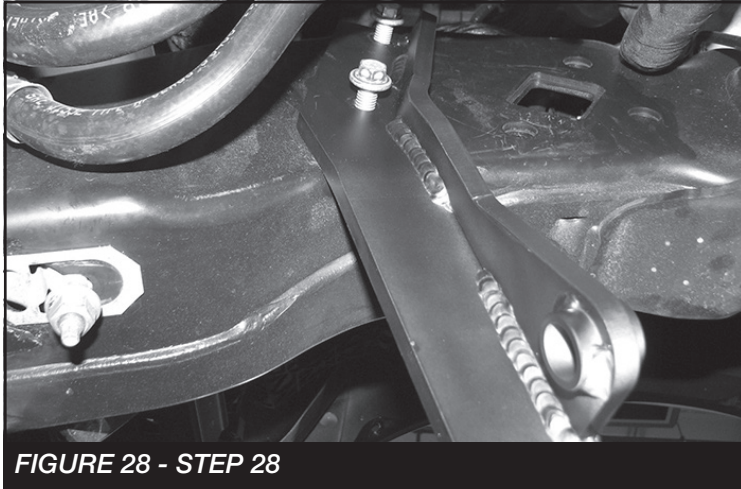

FIGURE 28 - STEP 28
28. Install FT30672 (steering stabilizer drop bracket) in the factory location using the factory hardware. Torque to 52 ft-lbs. **SEE FIGURE 28**